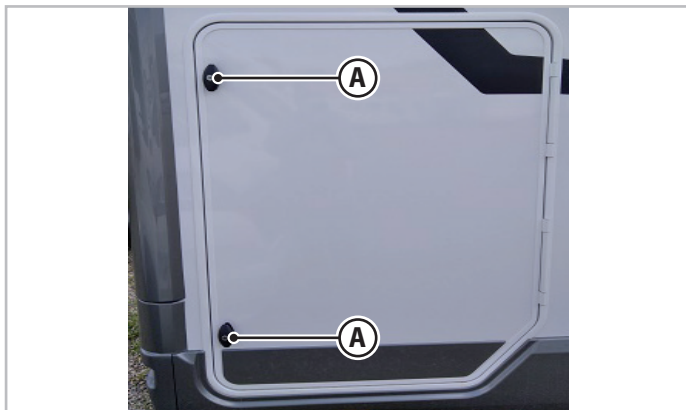

Fig.5.3 - Garage locker locks
- Check that you have locked the garage locker by securing all the locks (A - Fig.5.3) before starting to travel. Simply closing the flap by applying pressure will not ensure it is secured.
The garage locker is equipped with two locks (A - Fig.5.3).